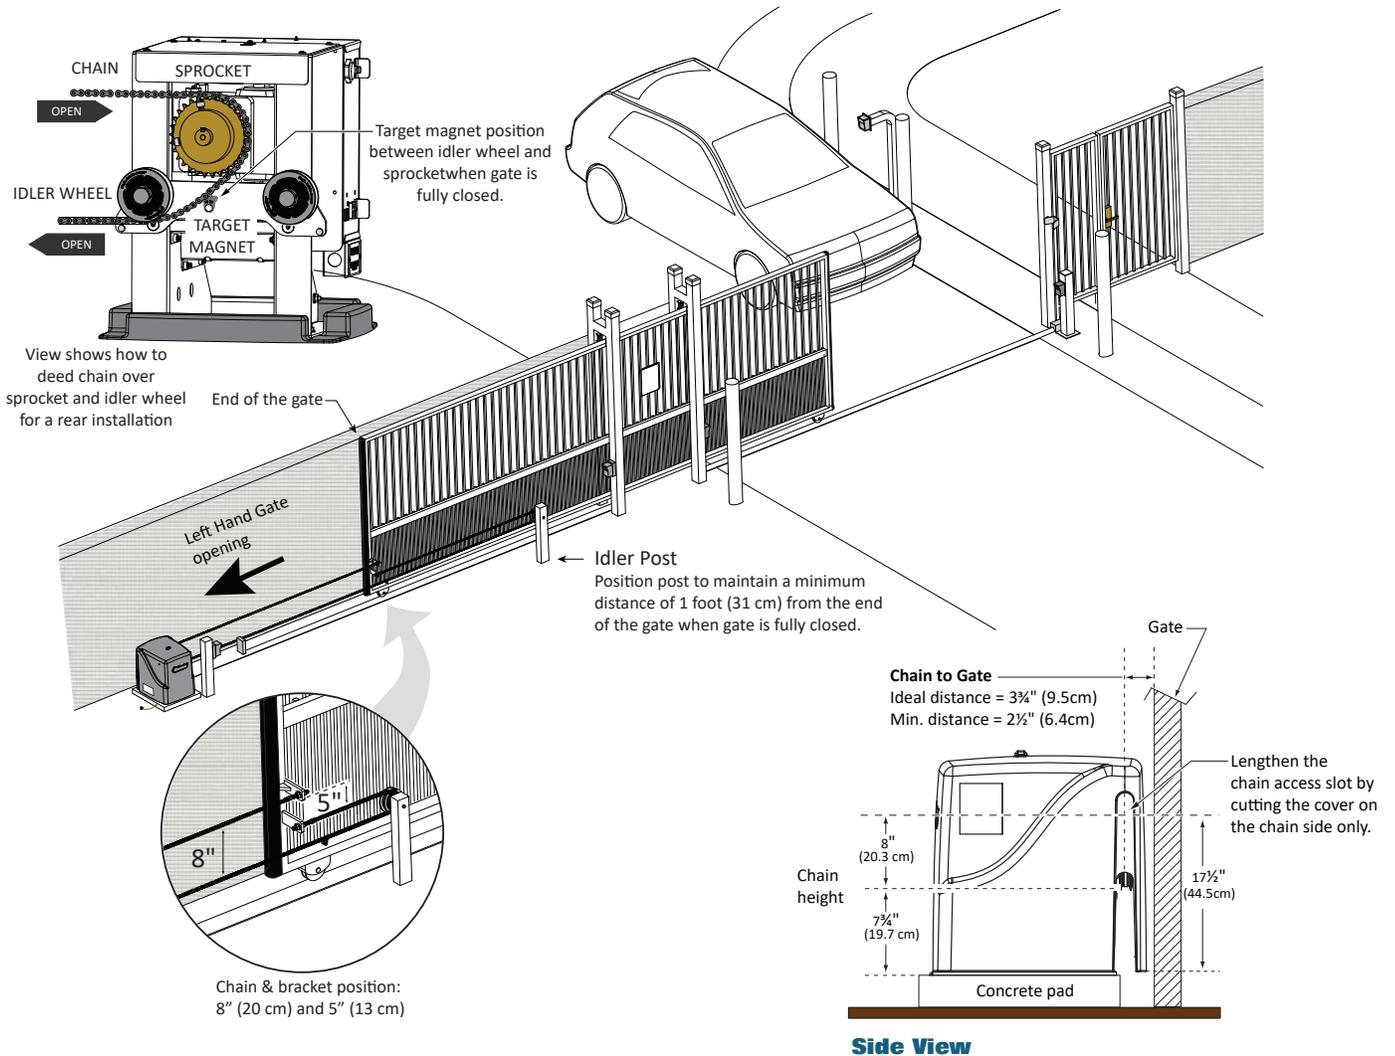

Figure 7. Rear Installation
A rear installation requires additional idler wheels and gate brackets, but it provides aesthetics as the chain is not visible along the gate. See Figure 7.
2. For a rear installation, see Figure 7.